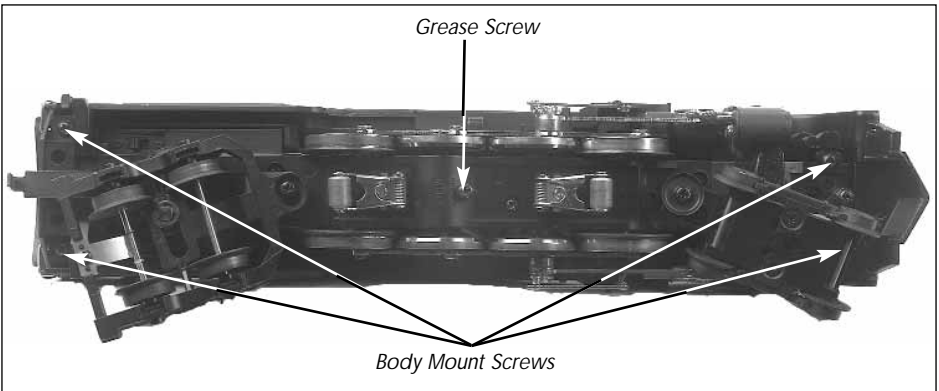
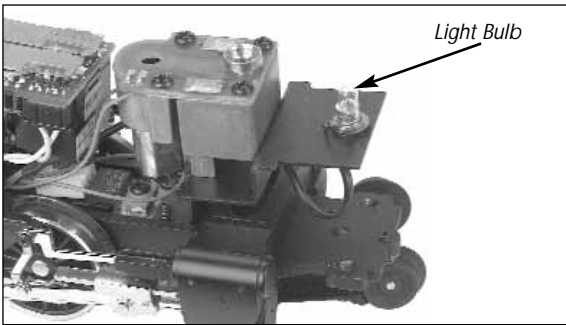

Figure 3 - Greasing points on the engine & location of body mount screws
Figure 7 - Replacing the Headlight
1. Unscrew the Grease screw as shown in Figure 3 and use an applicator to apply grease into these screw holes.
Remove the locomotive boiler from its chassis as shown in figure 3 on page 9. Once the boiler has been removed, rotate the headlight bulb counter-clockwise as seen in figure 7 to remove.